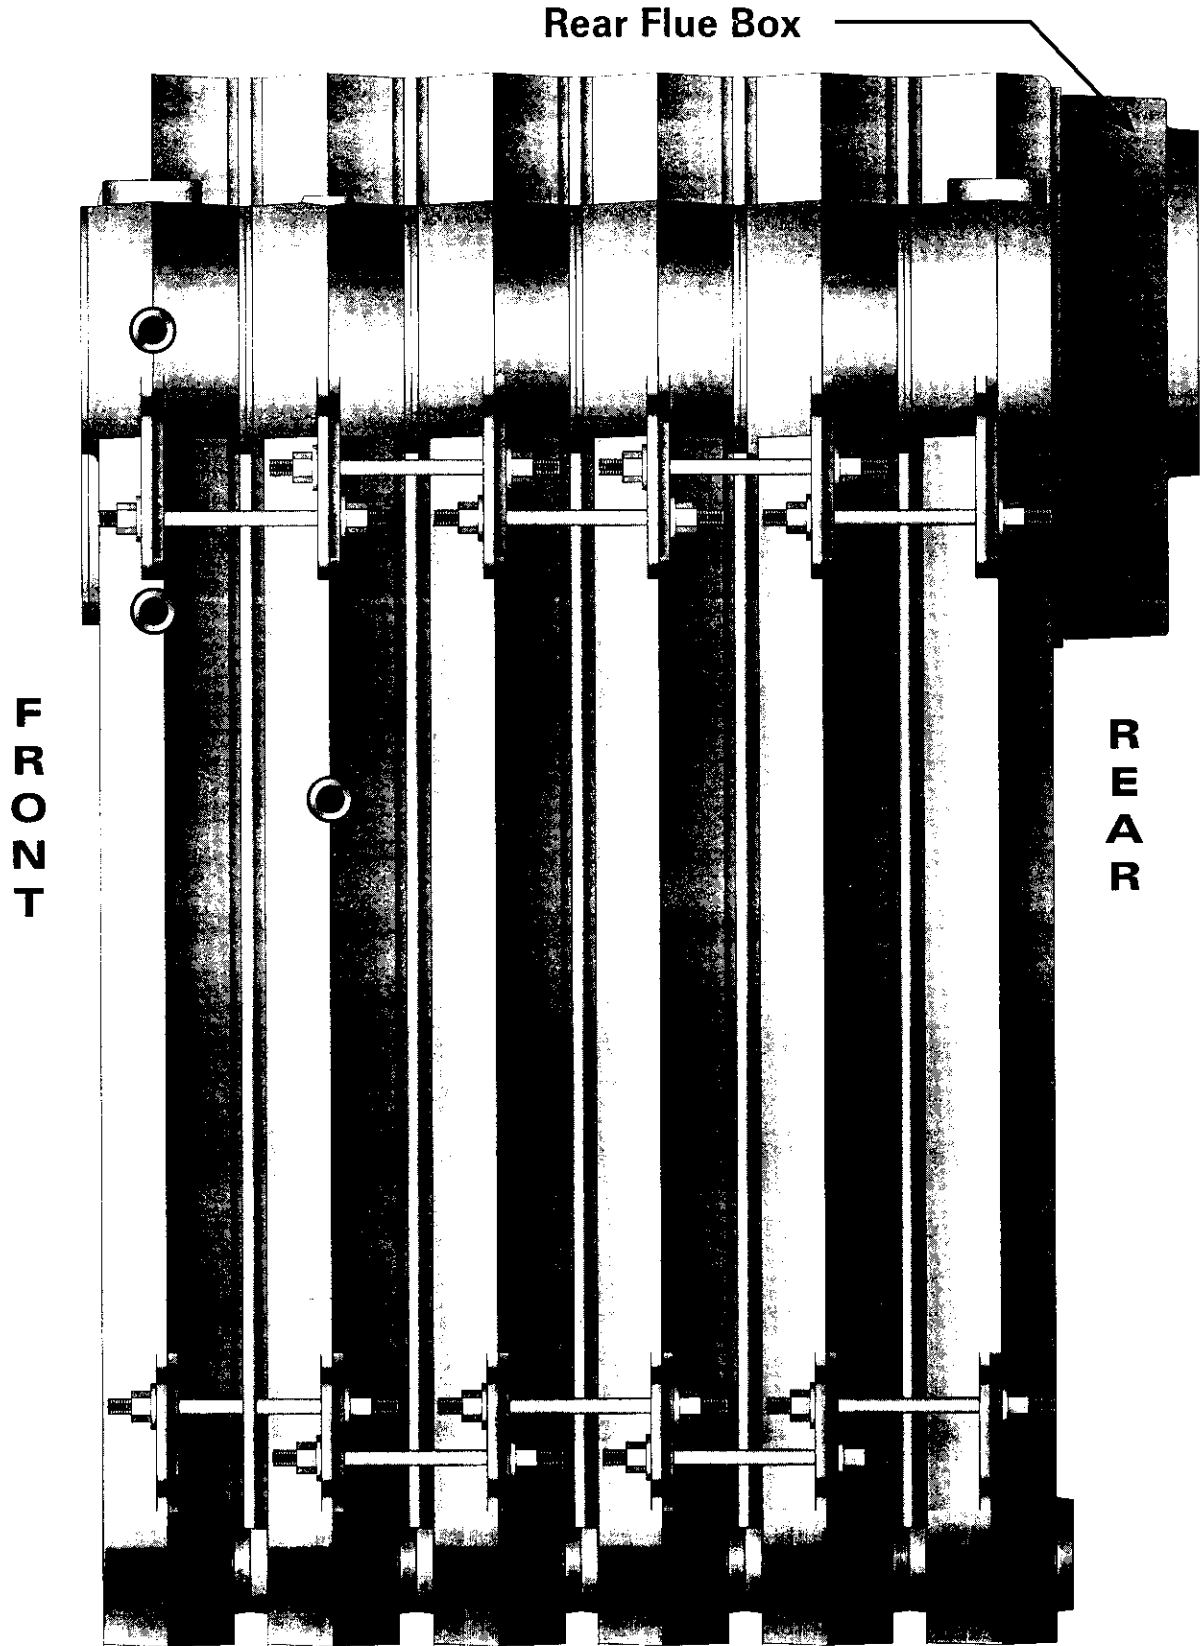

Figure 5: Series LC Boiler Assembly - Right Side View
14. Insert a tie rod with one nut and washer applied into each of the four tie rod lugs. See Figures 5 and 6.